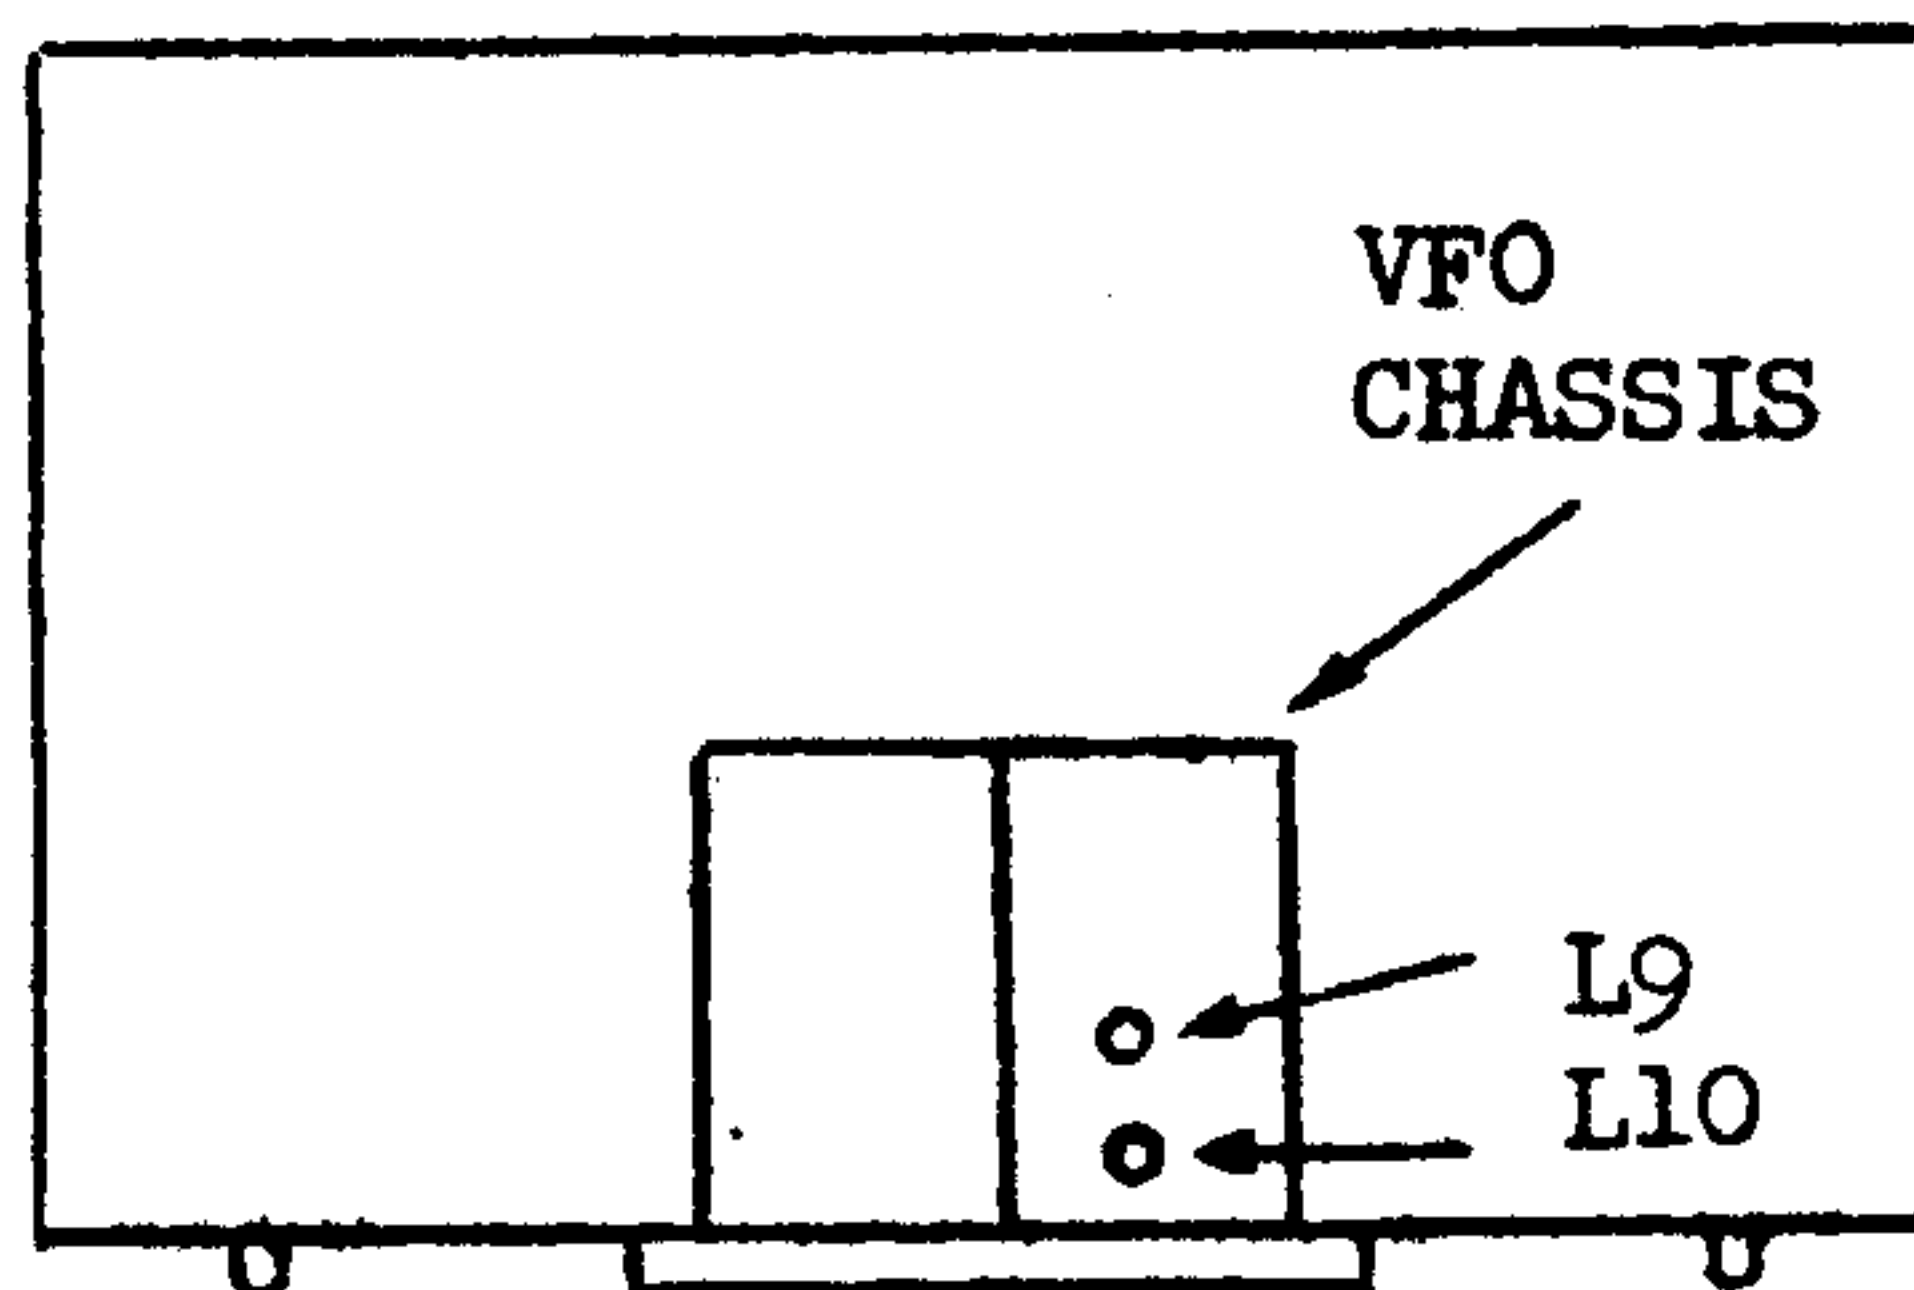

Figure 2 - Top View of Power Supply Section
26. Connect the lead, which has been soldered to the rotorlug of C1 to GL4. (S). Fig. 2.
27. Connect a 2" length of blue hook-up wire from the lug of L3 which is nearest the chassis (S), to lug 2, rear wafer, of SW1. (S). Route this lead through the 1/2" hole between coils L3 and L4, keep wire clear of hole edge. Figures 2 and 3.
28. Connect a 3-1/2" length of yellow hook-up wire from the lug of L4, which is nearest to the chassis (S), to lugs 3 and 4, rear wafer of SW1. (S) Figures 2 and 3.
29. Connect a 2" length of #20 bus-bar wire from the remaining lug of L3 (NS) to lug 1 of C1. (S). This lead must be clear of the condenser frame by 1/4". Fig. 2.
30. Connect a 1-1/4" length of #20 bus-bar wire from the remaining lug of L4 (NS) to lug 2 of C1. (S) This lead must also be clear by 1/4". Fig. 2.
31. Connect a length of #20 bus-bar wire from the stator lug 1 of C3 (S) to the top lug of L4. (NS). Fig. 2.
32. Connect a length of #20 bus-bar wire from the stator lug 1 of C6 (NS) to the top lug of coil L3. (S). Fig. 2.
34. Connect a 4" length of green hook-up wire from the top lug of L4 (NS), route through the 1/2" hole in the chassis and connect to lug 5, rear wafer, of SW1. (S). Figures 2 and 3.
- h. Adjust the slug of coil L-10 (refer to Figure 2 for location) for maximum drive to the oscillator stage of the transmitter as determined by the maximum amount of oscillator plate current dip.
- j. Adjust the slug of coil L-9 (refer to Figure 2 for location) for maximum drive to the oscillator stage as in step h.